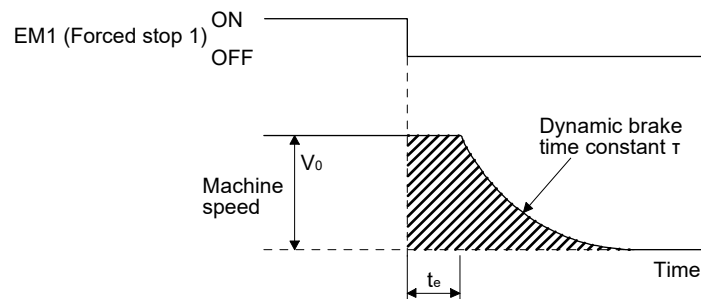

Fig. 16.3 Dynamic brake operation diagram
Fig. 16.3 shows the pattern in which the servo motor comes to a stop when the dynamic brake is operated. Use equation 16.1 to calculate an approximate coasting distance to a stop. The dynamic brake time constant τ varies with the direct drive motor and machine operation speeds. (Refer to (1) (b) in this section.)